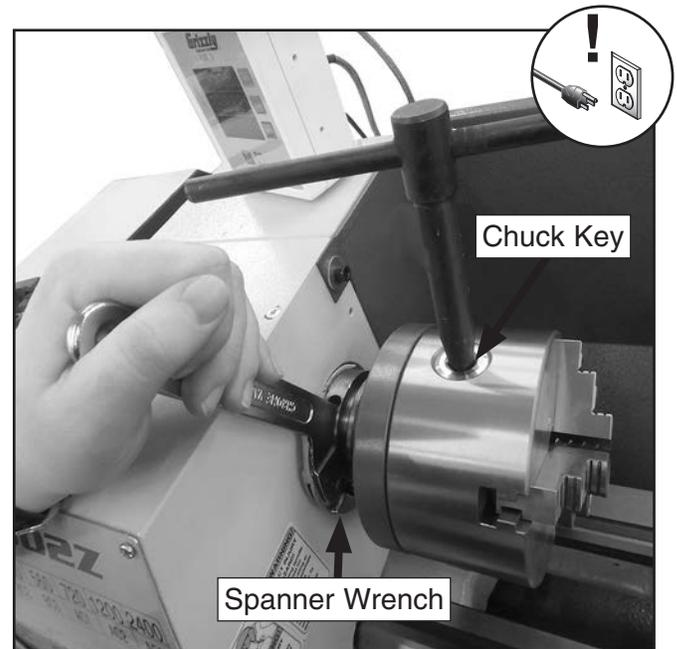

Figure 25. Location to insert spanner wrench and chuck key when installing chuck.
5. Insert spanner wrench and tighten chuck with chuck key until it is seated snug against the spindle shoulder as shown in **Figure 25**.